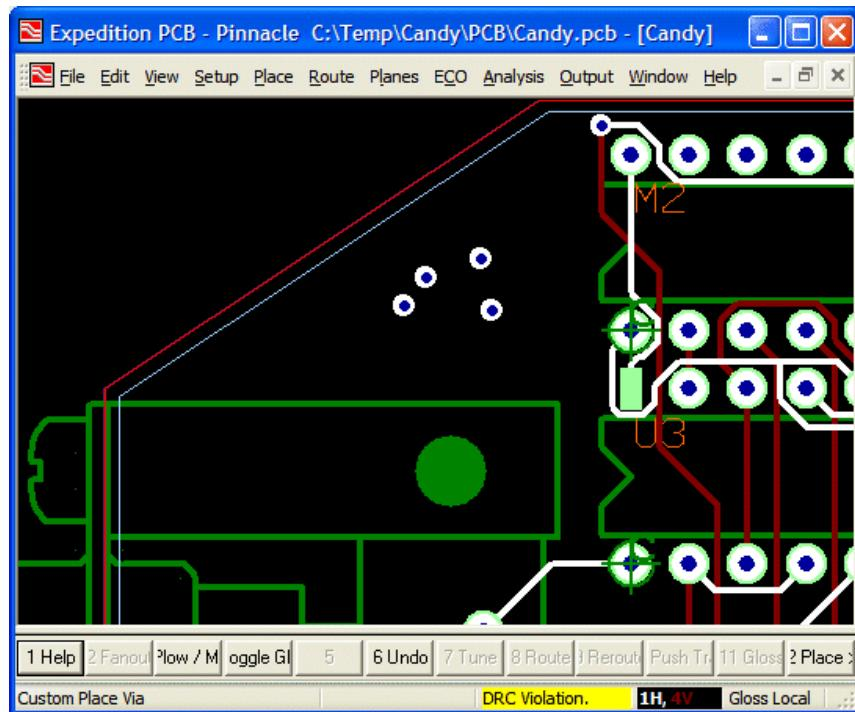

Figure 12-22. An error occurs is we try to place a via on top of an existing pin.
- 6) Now try clicking your mouse cursor over an existing pin (say M2-1, for example) and observe an error message appear in the *Error* field of the status bar as illustrated in Figure 12-22.